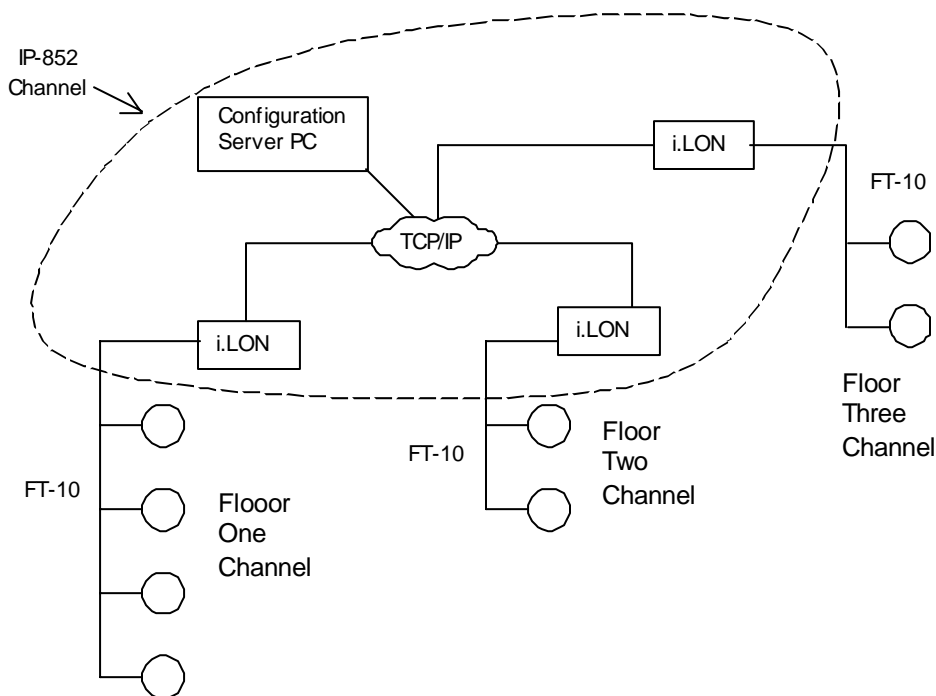
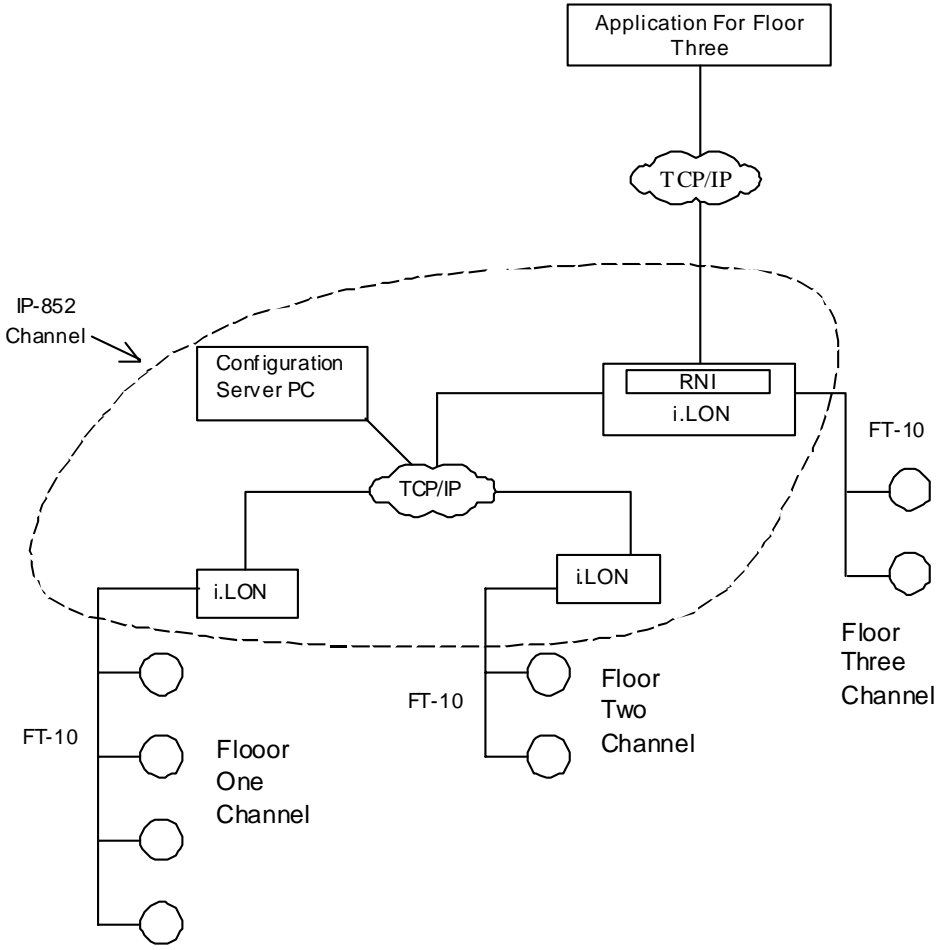
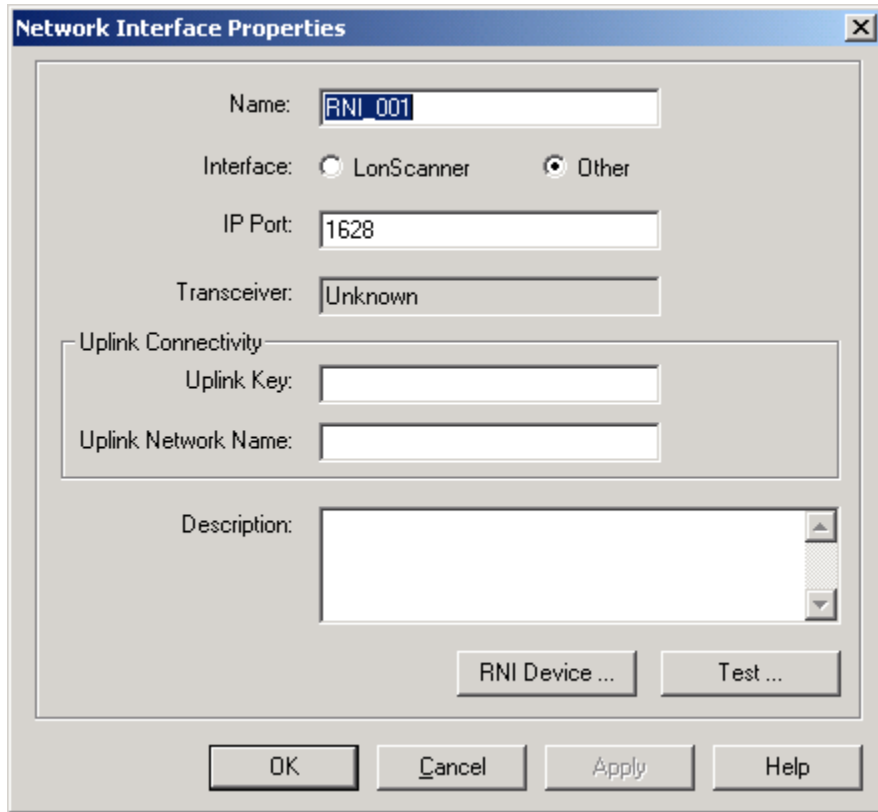

Figure 12.2. An IP-852 Channel
Figure 12.4 RNI and IP-852 Router
Figure 12.9 Network Interface Properties Dialog
to the correct IP address. Figure 12.2 shows a typical IP-852 channel configuration.
Figure 12.2 shows an example network in which 3 *i.LON* 100 servers are used to create an IP-852 channel connecting three TP/FT-10 channels, each of which connects the devices installed on a different floor in a building. The circled portion of the diagram represents the IP-852 channel – the virtual, IP-based connection between the three *i.LON* 100 servers. As a result of this connection, a single application can communicate with the devices all three of the TP/FT-10 channels connected to each of the three *i.LON* 100 servers via the TCP/IP connection, and monitor and control the entire building.
Figure 12.2 shows a Configuration Server inside the IP-852 channel. The Configuration Server stores the configuration of the IP-852 channel, including the IP addresses of all the devices and routers installed on the channel. You will initially configure the IP-852 channel with the Configuration Server, and the Configuration Server must be running anytime you change the configurations of the devices on the IP-852 channel. You can run the Configuration Server on any PC with access to the IP network containing the IP-852 channel. The software required to run the Configuration Server is included with the *e3* software. For more information on the Configuration Server, see the *IP-852 Channel User's Guide*.
Figure 12.4 demonstrates this. You will recall the IP-852 channel shown in Figure 12.2, in which the IP-852 channel connected three *i.LON* 100 servers,
each used to monitor a floor of a building. Figure 12.4 shows an update to this configuration. In Figure 12.4, the *i*LON 100 server for Floor Three has been configured to operate as an RNI, so that an application can connect to the devices on Floor Three without having to re-configure the IP-852 channel with the Configuration Server. **And so the *i*LON 100 server for Floor Three is involved in two separate TCP/IP connections: the IP-852 connection with the other *i*LON 100 servers, and the RNI connection with the application for Floor Three.** In this way, an LNS or OpenLDV-based application can access the devices on Floor Three via the RNI connection, without requiring modifications to the configuration of the IP-852 channel.
You can click a Profile name in the list to see a list of devices that are using that Profile. When you do so, you will notice that there are two levels of sub-trees below the Profile. The first sub-tree level is the IP Address list. This lists the devices that are using the Profile. The devices are listed by their hostnames or IP addresses, depending on how you configure them. In Figure 12.2, there are two devices using the Default Profile: one is identified by its hostname, “Host Device One,” and the other is identified by its IP address, “101.101.101.101.”
The next sub-tree level is the Network Interface Name list. This lists the RNI definitions that have been created for each device. In Figure 12.2, there are three RNI definitions for the device called Host Device One, and one for the device using IP address 101.101.101.101.
6. When you have entered the IP address or hostname, click **Finish**. This returns you to the RNI tab shown in Figure 12.2. The *i*.LON 100 server’s RNI configuration will be listed on the tab. To continue configuring the RNI, select it on the RNI tab and click **Properties**. This opens the dialog shown in Figure 12.9.